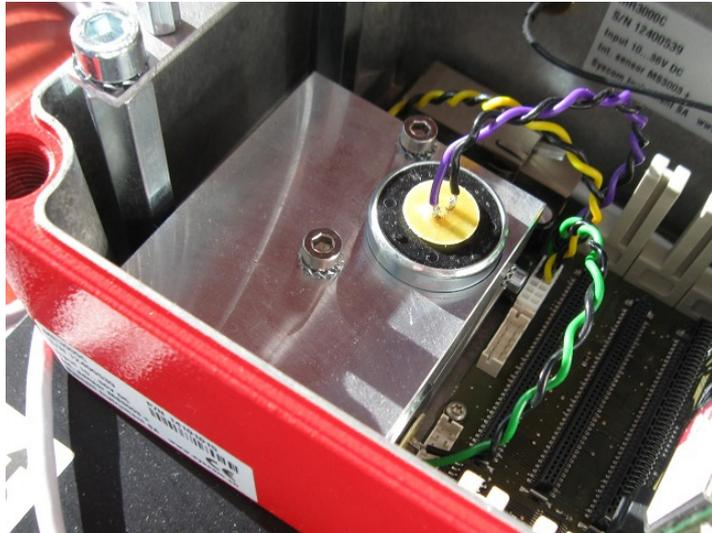

Figure 2.5.5 The internal triaxial velocity sensor is located at the rear end of the housing.
- an internal triaxial velocity sensor (as presented in Figure 2.5.5)